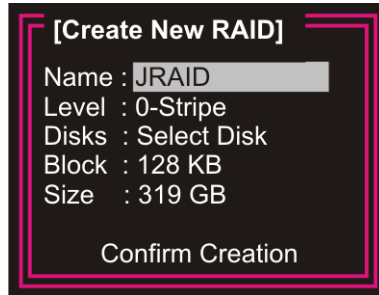

Figure E-4: Create RAID Name
Step 2: The **Create New RAID** window opens. The **Name** item is highlighted (**Figure E-4**). Enter a name made up of one to 16 characters for the RAID volume to be created, then press **ENTER**.